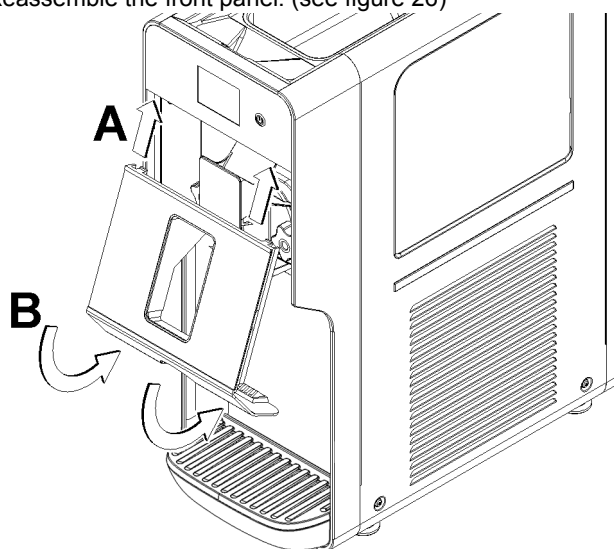

figure 26
- 5 Reassemble the front panel. (see figure 26)